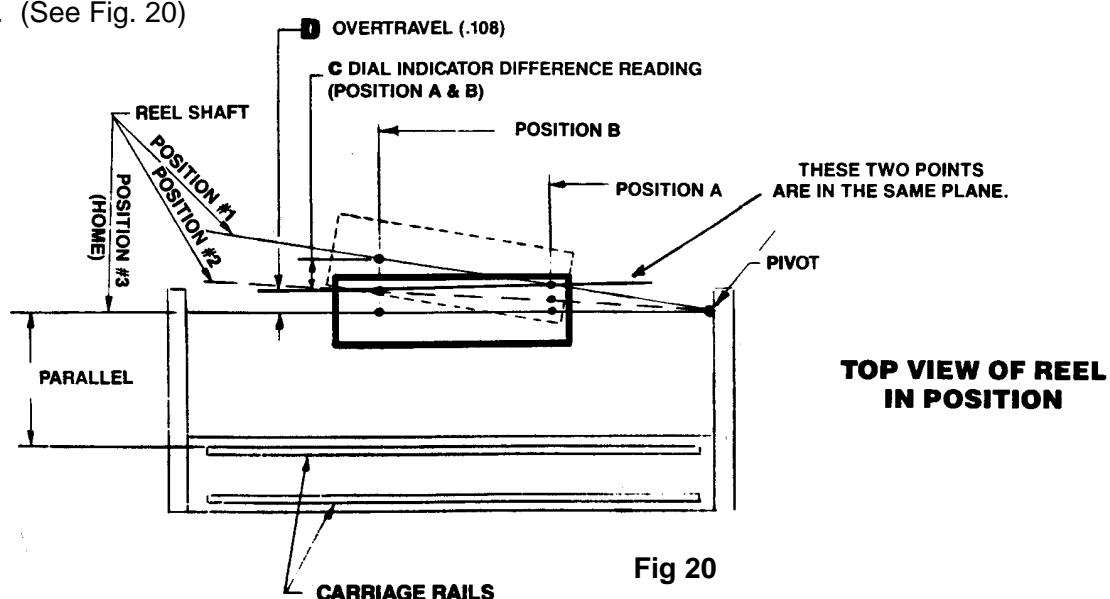

Fig 20
STEP 1. Read the dial indicator on the right side of reel shown as Positon A in Fig. 20. Now read dials as shown in Fig. 19A.
STEP 2. Move the set up stand to the left side as shown in Position B in Fig. 20 and read the dials as shown in Fig. 19B.
STEP 3. Read the difference between each position. Shown as **C DIAL INDICATOR DIFFERENCE READING** in Fig. 20.
STEP 4. To establish the overtravel distance "D" in Fig. 20, you do as follows:
The reason for this is that the square mounting bar pivots on one end and is adjusted on the opposite end. Anytime the adjusting end is moved to change the position B dimension, the position A dimension is also changing at a ratio to position B. By over compensating at the adjusting end you will compensate for this movement and get the reel aligned much faster. (See Fig. 20)
2. Now travel farther by the amount shown in paragraph F, Step 4 to put the reel in reel position 3 (HOME). (See Fig. 20)
Example: D = .108 See Fig. 19C for indicator reading at final position No. 3 (HOME) shown at Fig. 20. This indicator is to move a total of .108 thousands, .100 thousands on the small dial, then .008 thousands on the large dial.